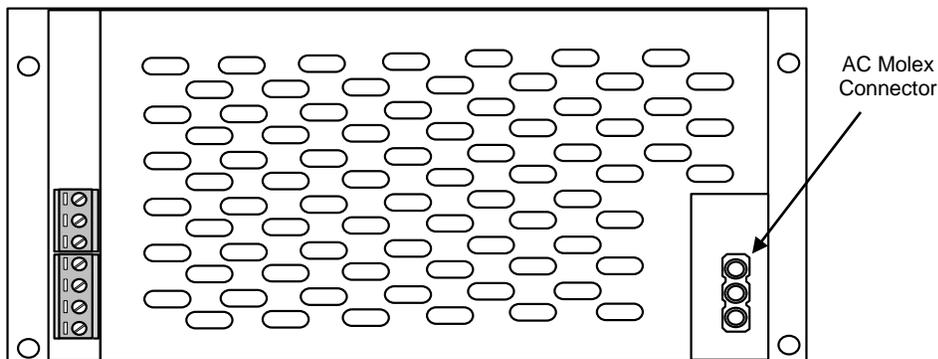

Figure 61 – NX-EM-PSU Expansion Power Supply Installation
To install the NX-EM-PSU expansion power supply charger, place the module over the four (4) standoffs located on the right side of the back box below the NX-FACP base card and secure with the four (4) screws provided with the NX-EM-PSU module (see figure 61). It is critical that these screws be tightly secured as they are required for proper earth ground connection.
Connect one end of the double-ended Molex connector, provided with the NX-EM-PSU, into the NX-ACS-ACB board and connect the other end of the double-ended Molex connector into the NX-EM-PSU (see figure 61). Use the tie-wraps supplied with the NX-EM-PSU to secure the AC cable to the back box of the NX-FACC-1 command center or NX-CC01-BB/NX-CC02-BB modular command center.
If replacing the NX-EM-PSU expansion power supply, remove power (AC and DC) from the system. Remove the AC Molex connector, 24 VDC power output wiring and relay trouble contact wiring from the NX-EM-PSU. Remove the four (4) screws securing the NX-EM-PSU to the back box and remove the NX-EM-PSU (see figure 61). Position the new NX-EM-PSU module onto the back box standoffs and secure with the four (4) removed screws. Replace the removed AC Molex connector, 24 VDC power output wiring and relay trouble contact wiring. Reconnect AC and DC power to the system.
Mount the NX-EM-RL8 eight relay output module to the standoffs located below the NX-FACP base card on the left side of the NX-CC01-BB-BB and NX-CC02-BB-BB command center back box, using the four (4) screws supplied with the NX-EM-RL8 module (see figure 61).